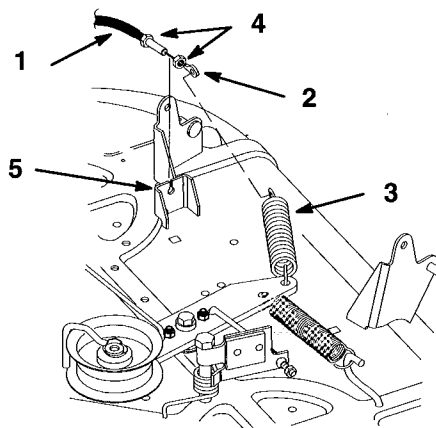

Figure 38
5. Unhook the blade control (PTO) cable ring end from the idler spring (Fig. 38).
6. Remove jam nut from blade control (PTO) cable at mounting bracket. Slide the cable from the bracket (Fig. 38).